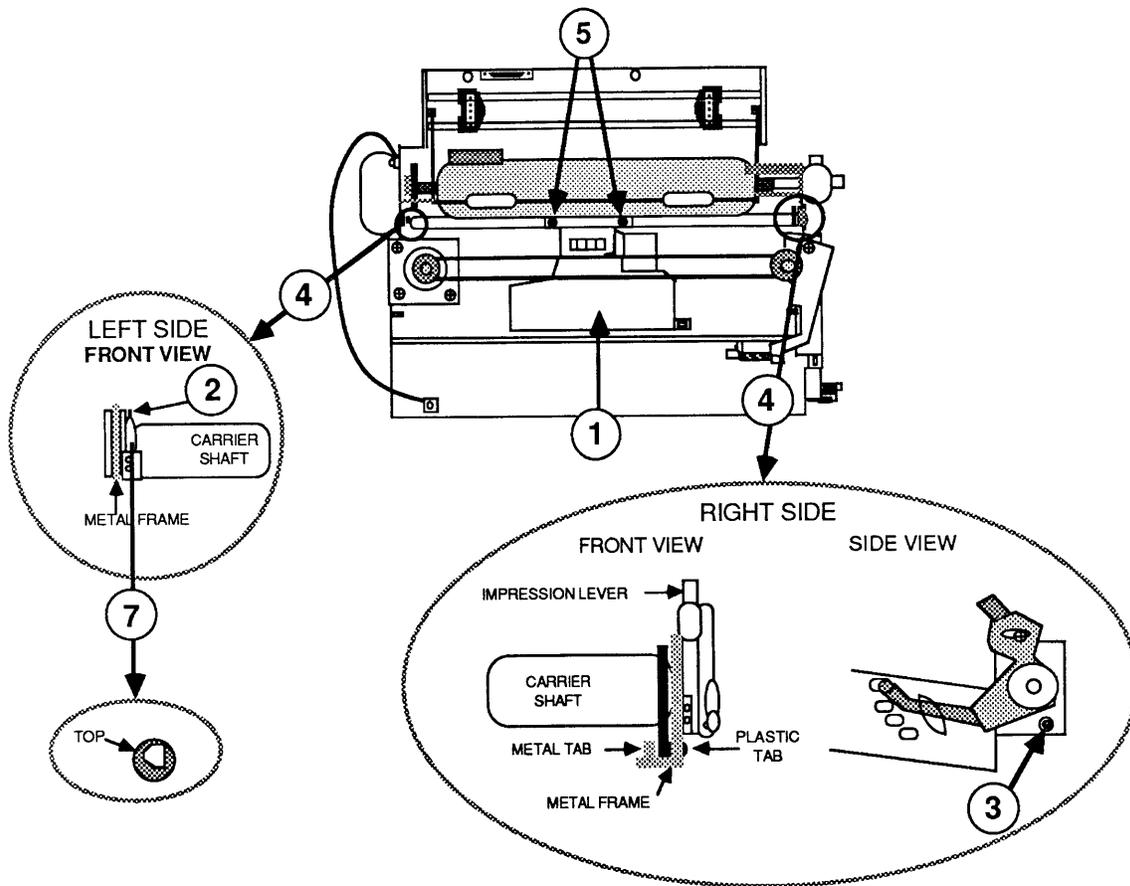

FIGURE 33
6. Place the carrier cam on the left side of the carrier shaft. Be sure to position it as shown in Figure 33, #7, with the smaller section as the top of the cam. The wrong position will produce uneven printing.
7. Position the carrier assembly so the tabs underneath the assembly (Figure 33, #1) are in place.
8. Push back the tab (Figure 33, #2), and slide the left side of the carrier shaft into place while making sure the right side is lined up.
9. Slide the right side of the carrier shaft into position, making sure that the tab is in the hole in the metal frame and that the impression lever is in position (Figure 33, #3).
10. Push the metal tab back toward the rear of the machine (Figure 33, #4).
11. Verify that the impression lever is pushed forward all the way. Position the clear plastic paper guide and replace the two screws (Figure 33, #5). (Refer to Section 4, Adjustments, if you need more information.)